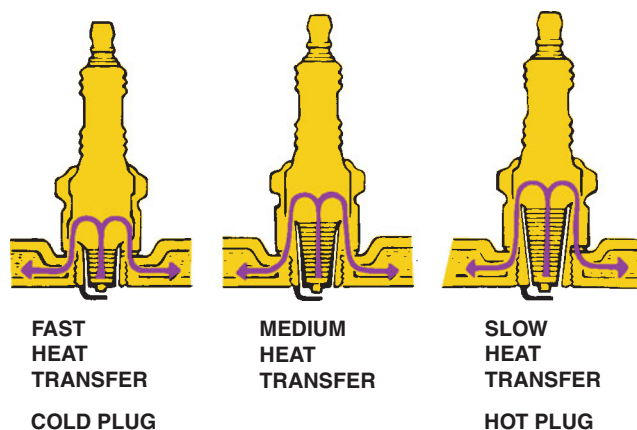

FIGURE 29-35 The heat range of a spark plug is determined by distance the heat flows from the tip to the cylinder head.
- **Heat range.** This refers to how rapidly the heat created at the tip is transferred to the cylinder head. A spark plug with a long ceramic insulator path will run hotter at the tip than one that has a shorter path because the heat must travel farther. ● **SEE FIGURE 29-35.**